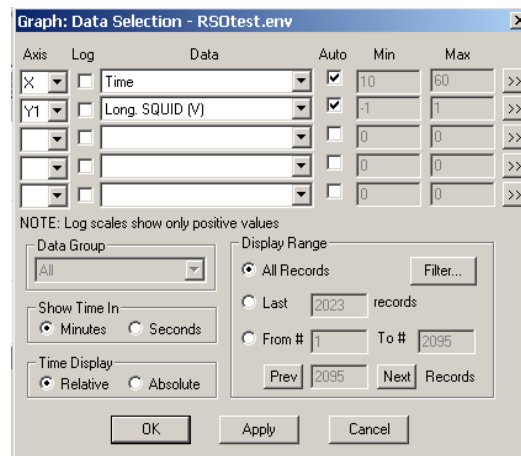

Figure 5. Graph: Data Selection dialog
4. After the plot window has opened, use the **Graph: Data Selection** dialog box (right-click on the graph or select **Graph >> Data Selection**) to set the Y1 coordinate to **SQUID** voltage and the X coordinate to **Time**, as shown in Figure 5.